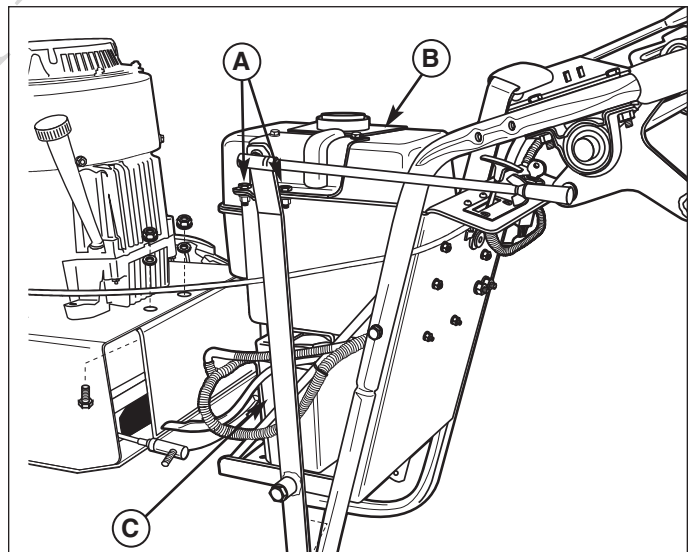

Figure 13b. Battery
2. Remove the two 5/16-18 x 3/4 hex bolts (A, Figure 13b) securing the fuel tank assembly (B) to the unit.
5. Perform the battery (C) removal, cleaning, and installation procedures found above in **CLEANING THE BATTERY AND CABLES - 9HP MODELS**